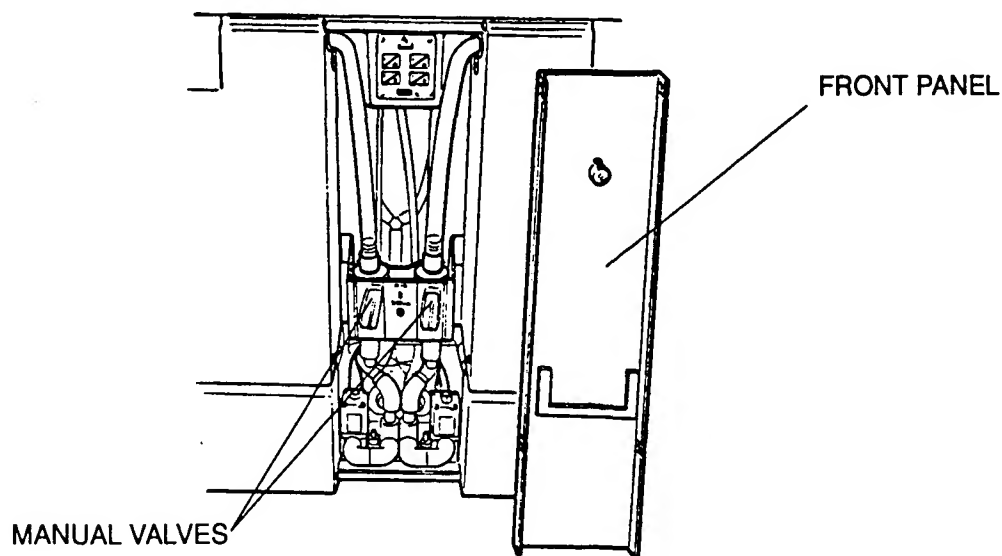

figure 6-5
2. Check that both MANUAL VALVES (figure 6-5) are in the MIXING POSITION. Remove the DISPLAY by loosening the 4 SCREWS to gain access to the DIP SWITCHES.